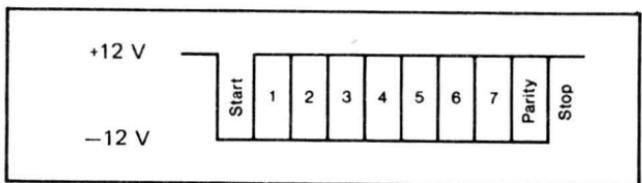

Fig. 2 Serial Data Format of SOV24
This type of interface panel can be used for serial transmission of data by changing the potential of signals on the line between +12V and -12V (see Fig. 2). The mode of operation can be set on the panel by means of a row of microswitches (KS), programmable as specified in Table 4. In graphic mode, codes ENQ (05 H), XON (11 H) and XOFF